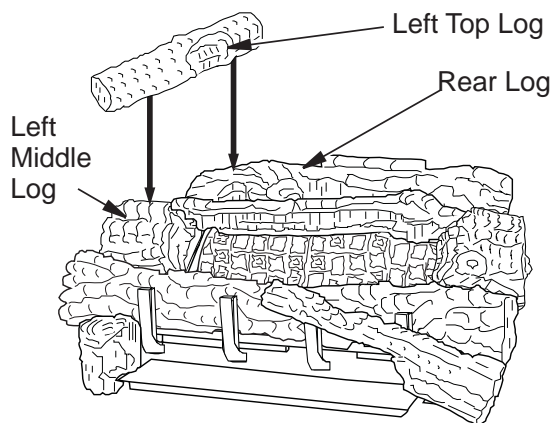

Figure 32 - Installing Left Top Log
10. Place the left top log (D-046) onto the rear log and the left middle log. Make sure to place the projection on the bottom of the left top log into the recessed areas on the rear and left middle logs (see **Figure 32**).